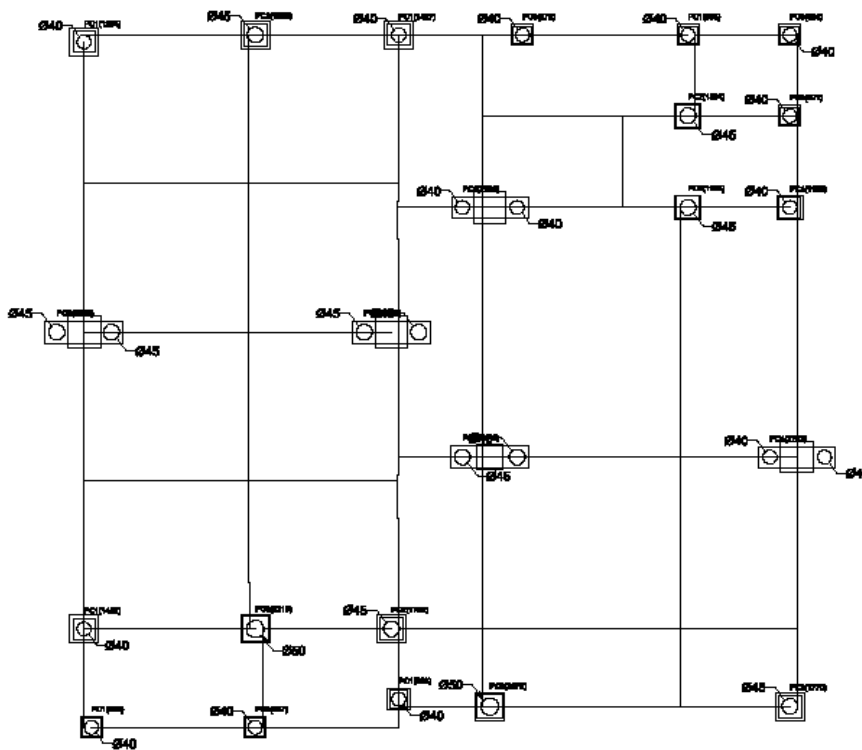

Fig 5.1.6
- Click on the Draw in Cad from tool bar (Fig 5.1.6)